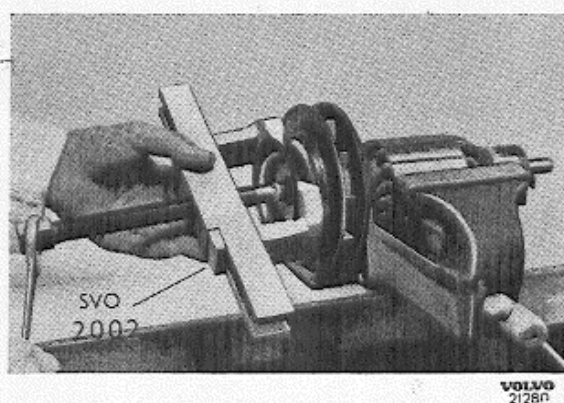

Fig. 13.
6. Fit the rotor in a vice, but do not tighten excessively (use copper jaws). Loosen the nut for the pulley and pull off the pulley. Use tool SVO 2002, Fig. 13. Remove the Woodruff key.